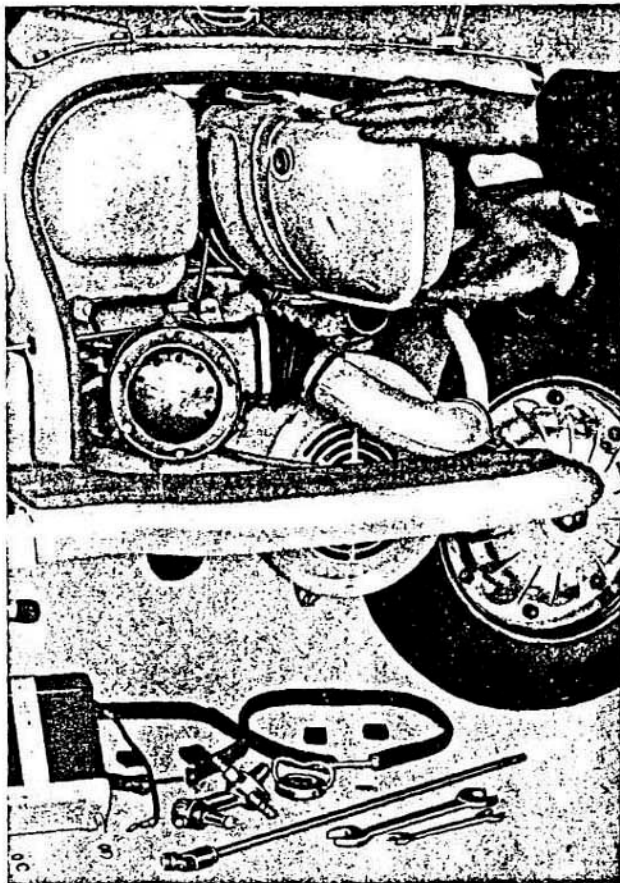

Fig. 33
- » 59 - Take hold of the tank from the flywheel side of the machine rotate it clockwise and slide out of frame. See Fig. 33.